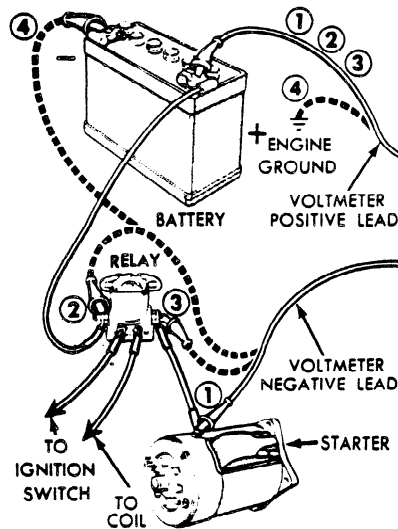

FIG. 2 Starting Cranking Circuit Test
1. With the voltmeter negative lead connected to the starter terminal and the positive lead connected to the battery positive terminal (Figure 2, connection (1)) . . . 0.5 volt.
2. With the voltmeter negative lead connected to the battery terminal of the starter relay and the positive lead connected to the positive terminal of the battery (Figure 2, connection (2)) . . . 0.1 volt.
3. With the voltmeter negative lead connected to the starter terminal of the starter relay and the positive lead connected to the positive terminal of the battery (Figure 2, connection (3)) . . . 0.3 volt.
4. With the voltmeter negative lead connected to the negative terminal of the battery and the positive lead connected to the engine ground (Figure 2, connection (4)) . . . 0.1 volt.